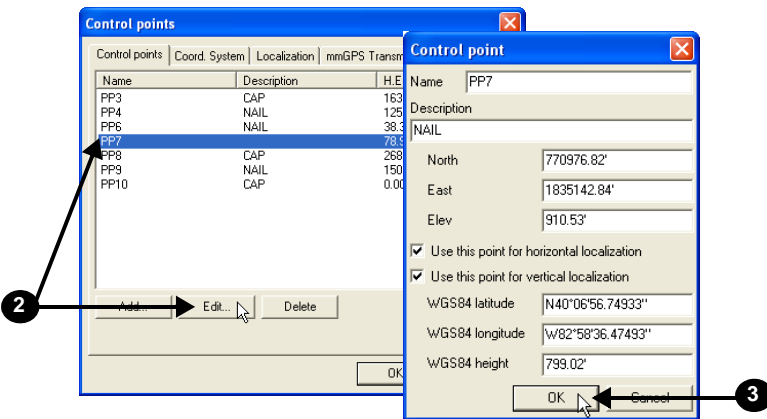

Figure 2-14. Edit Control Point
2. On the *Control points* tab, highlight the control point to change, and press **Edit** (Figure 2-14 on page 2-12) to edit the desired parameters.
3. Press **OK** (Figure 2-14 on page 2-12) to save your changes.